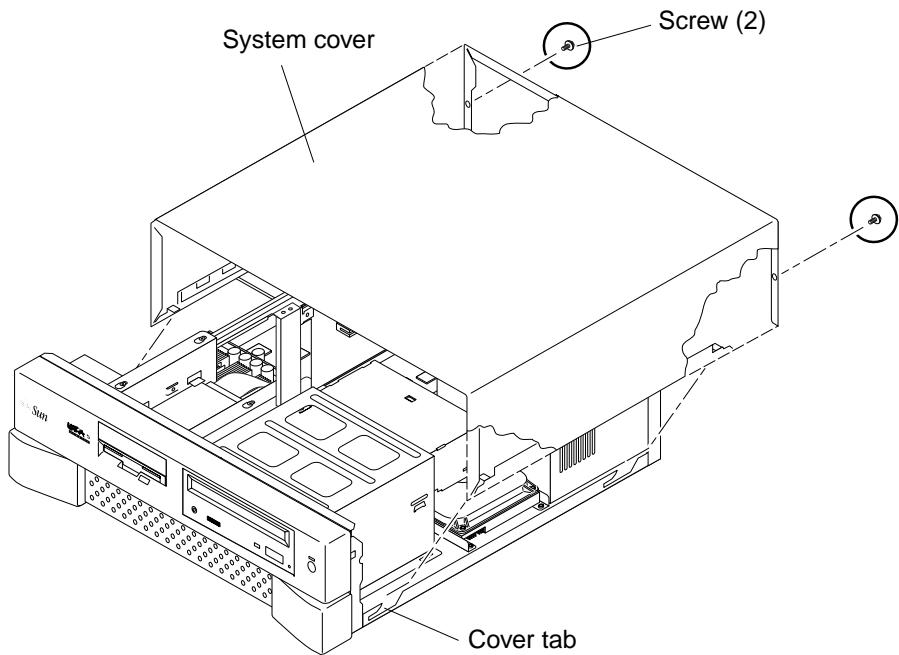

FIGURE 1-8 Replacing the Ultra 5 System Cover
- 2. Replace the Ultra 5 system cover as follows (FIGURE 1-8):**